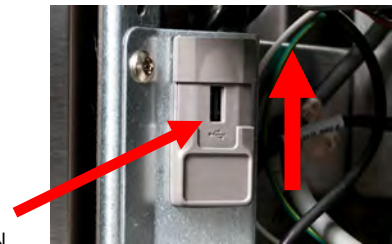

Figure 56
10. Open the far-left cabinet door and slide the USB cover up (see Figure 56).